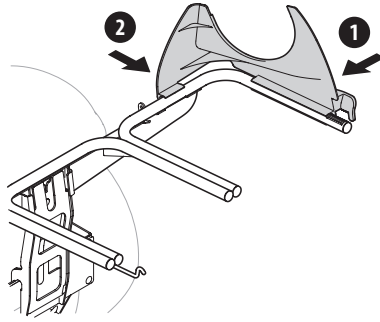

Figure 7
1. Snap the upper chute support (731-06497) in place by first clipping the side portion onto the hanger assembly rail (1). See Figure 7.
2. Snap the front side of the upper chute support to the rail (2), as shown in Figure 7.